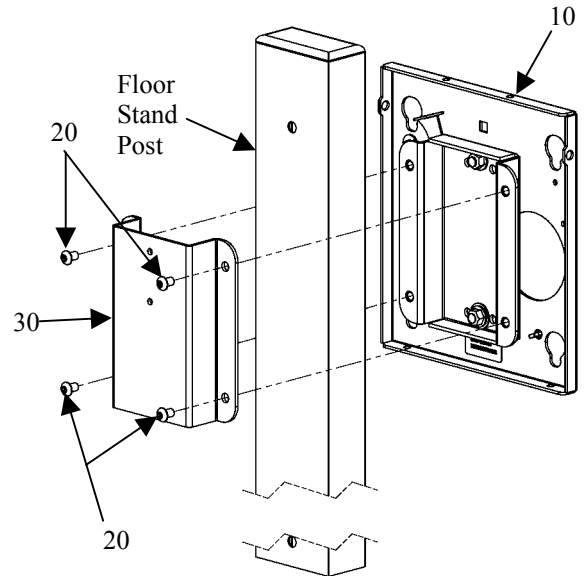

Figure 2. Attach MAC-160 to Floor Stand Post
1. Using the 5/32" hex wrench (40), attach the front plate (30) and mounting head (10) of the MAC-160 onto the floor stand post using four button head cap screws (20) as shown in Figure 2.
2. Adjust the MAC-160 (10) to the desired height on the floor stand post.